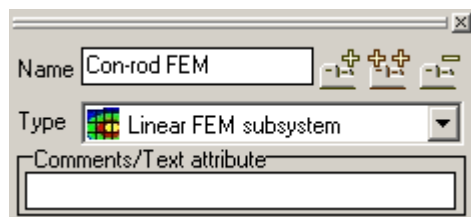

Figure 1.18.
3. Set **Name** to **Con-rod FEM** (Figure 1.18).